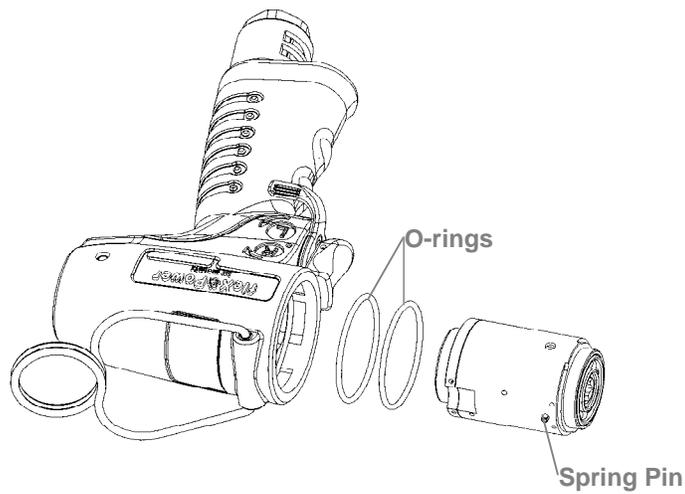

Fig. 168
(4) Housing and Motor Set Assembly
- Place two o-rings into the housing, then the motor set. Be sure the direction is correct when putting the motor set in, i.e. the pin on the side of the cylinder must aim at the hole to fix position as shown in Figure 168.